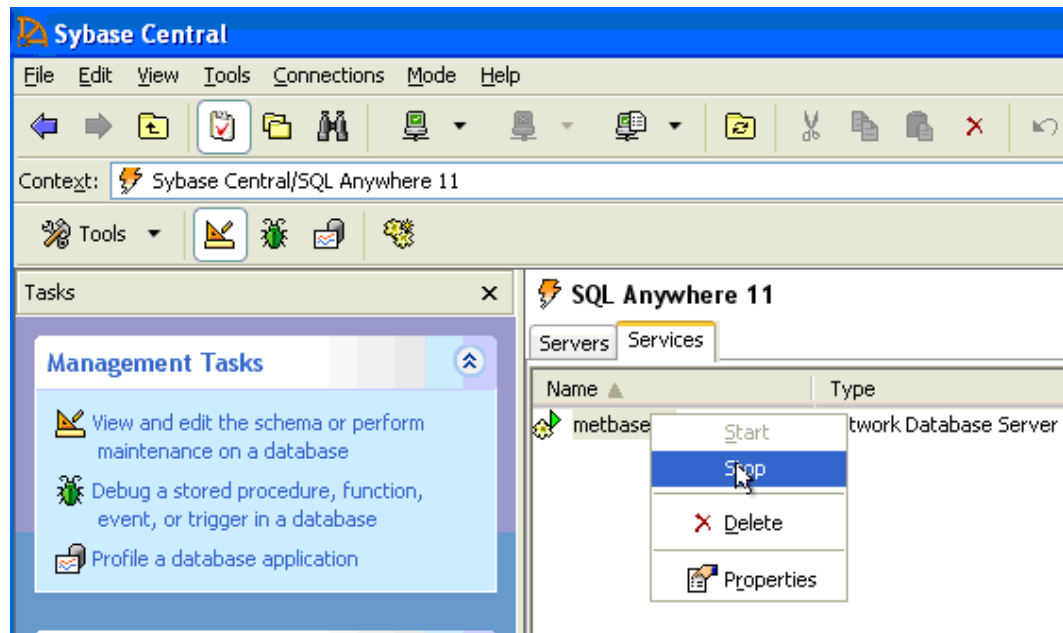

Figure 20. Sybase Central
5. Choose **Start** or **Stop** to enable or disable the Sybase 11 engine (see Figure 20).